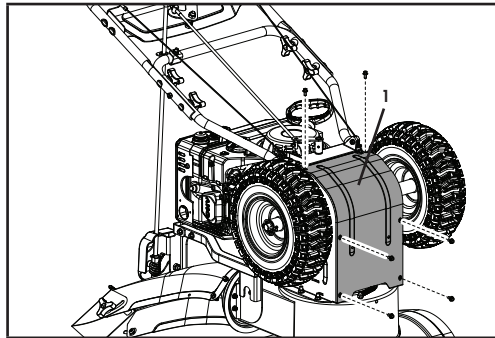

Figure 45A
2. Remove the base frame cover (1) from the underside of the snowblower by removing the six M6 × 16 screws which secures it (Fig 45A).